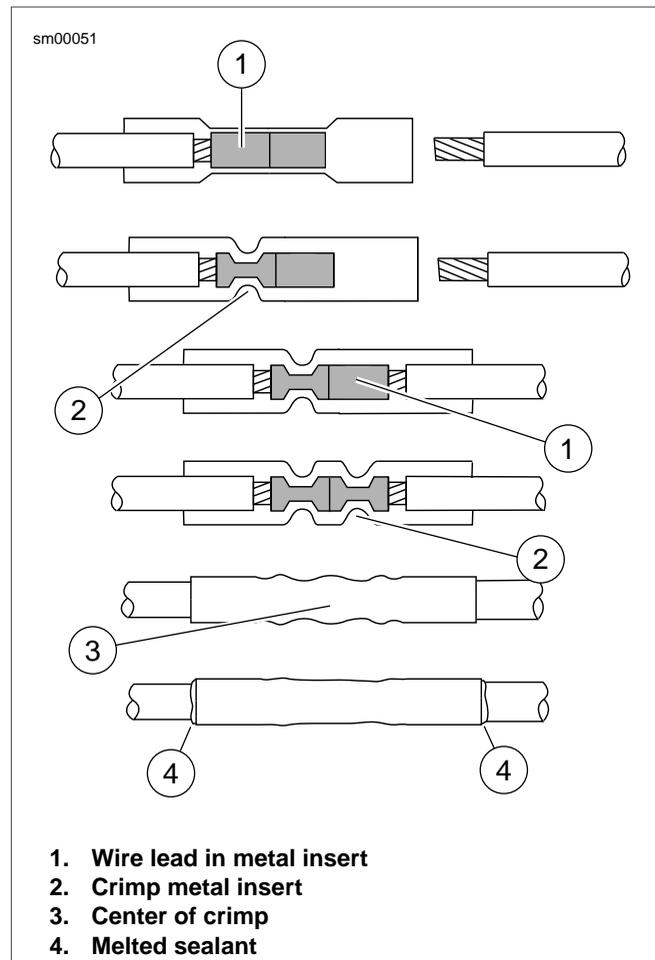

Figure A-49. Sealed Splice Connector
See Figure A-49. The connector is crimped twice - one side and then the other.
- See Figure A-49. Feed the stripped end of a wire into the connector until the wire stops inside the metal insert (1).
- Squeeze the handles tightly closed to crimp the lead in the insert (2). The tool automatically opens when the crimping is complete.
- Slide the connector to the other half of the metal insert. Insert the stripped wire lead (1) until it stops, and crimp the lead in the insert (2).
See Figure A-49. Allow the splice to cool and inspect the seal. The insulation should appear smooth and cylindrical. Melted sealant will have extruded out the ends (4) of the insulation.